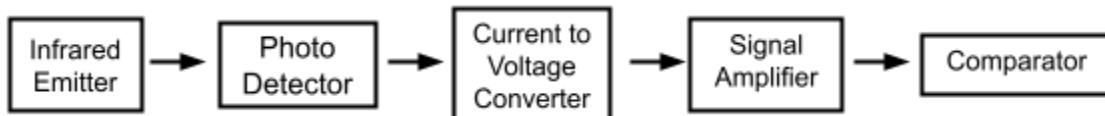

Figure 5.5 – Components from Lab 4.
A. Based on the measurements you made of the various components in Lab 4, design the system contained in the dashed box in Figure 4.1 of Lab 4 (see also Figure 5.5 of this lab). The design should be such that the output of the comparator is at its high level (+5V) when the light beam is unobstructed and at its low level (0V) when the light beam is obstructed. **Include a schematic diagram of your design including all resistor values.**
Task 1 – For the first part of this lab, you are going to combine the pieces you studied in the last lab. Using the circuitry studied in the previous lab, you should implement each of the boxes shown in Figure 5.5. The design should be such that the output of the comparator is at its high level (+5V) when the light beam is unobstructed and at its low level (0V) when the light beam is obstructed. Please see the lab report section at the end of this lab for a description of items from this task that you need to include in the lab report.